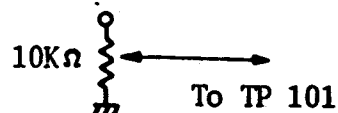

Fig. 1
4. Supply RF AGC bias voltage to TP 101 (See Fig.1)
5. Supply RF AGC bias voltage to TP 101 (See Fig.1)